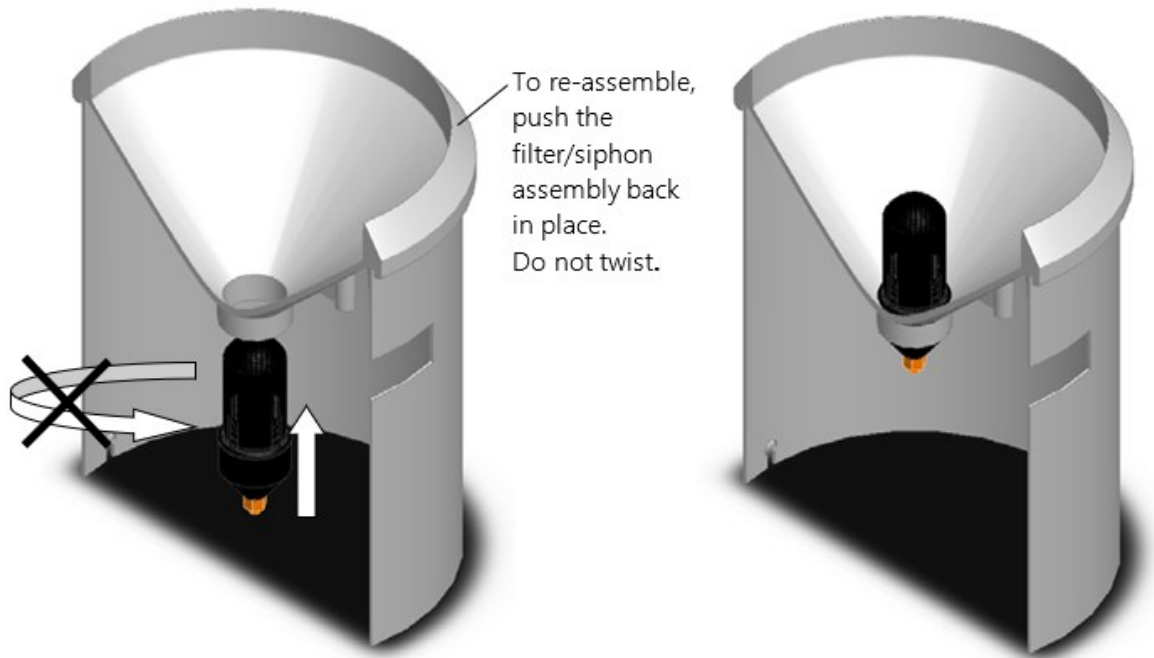

Figure 9-5. Reassembling the CS700
4. Push filter/siphon assembly back into place (Figure 9-5 [p. 26]).